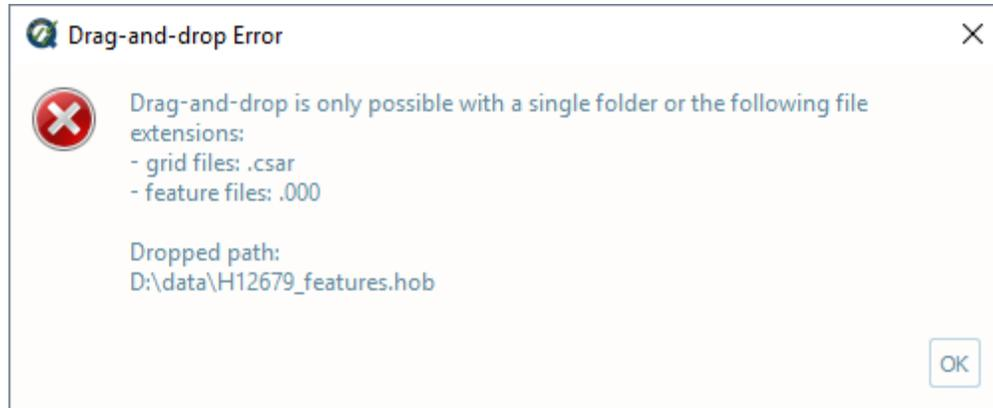

Fig. 2.2: The error message for unsupported formats.
- Note that any unaccepted file types will be rejected with a message to inform the user (Fig. 2.2).